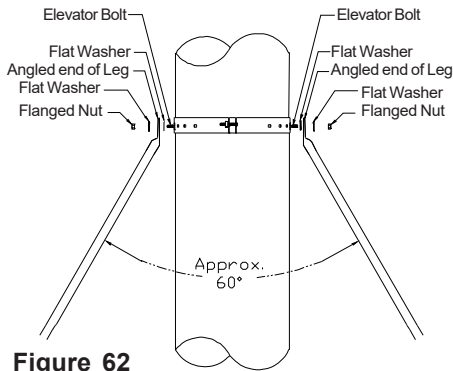

Figure 62
- G. Place a flat washer on the elevator bolts and attach the top portion of each of the telescoping legs to the 2 elevator bolts on the Support Band with washer and flanged nut (see Figure 62). NOTE: Top portion of each leg can be bent at an angle.
- K. The two telescoping legs should form an angle of about 60° to give support to the chimney in all directions. The angle of the telescoping legs should be approximately 45° from vertical when fastened to the roof (see Figures 62 & 65).